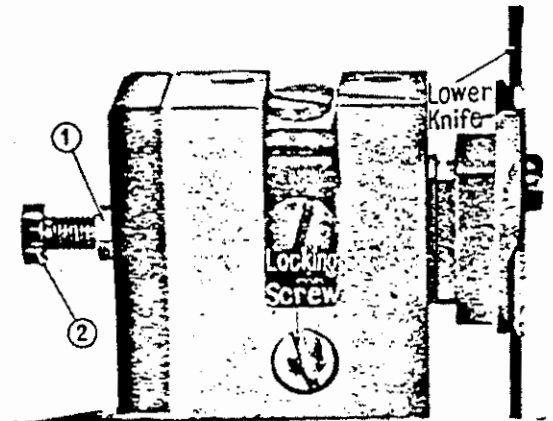

Fig. 23
- The normal pressure of the lower knife holder spring is 1.8-2.5 kg. Depending upon the kind of material to be sewn, make proper adjustments. To make this adjustment, loosen the lower knife adjusting nut ①, Fig. 23; if the lower knife adjusting screw ② is turned clockwise, the spring pressure gets stronger and if turned counter clockwise, it gets weaker.